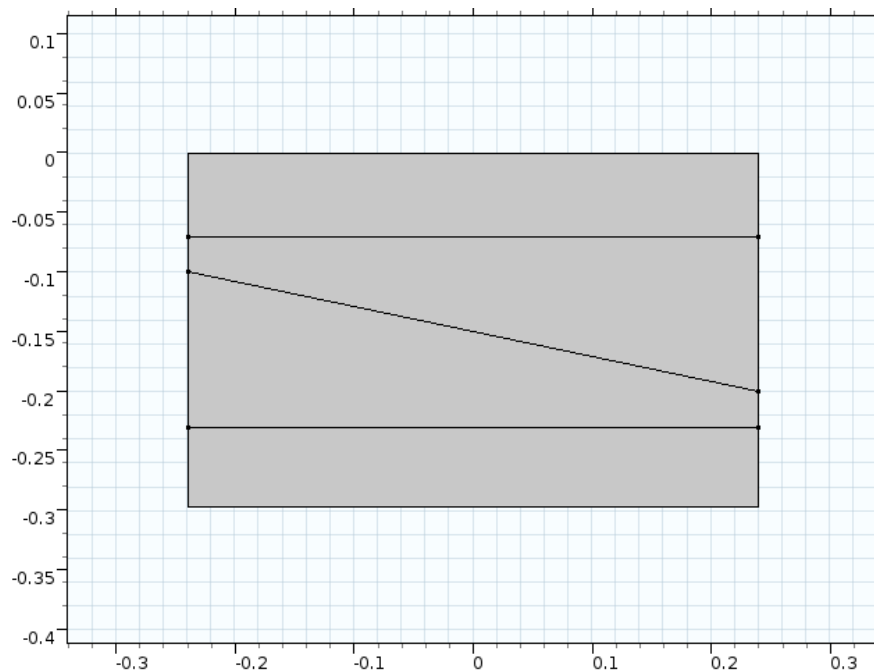

Figure 1 – The container with proper lines drawn in COMSOL.
5. First we have to add the global parameters. These are the width and height of the container (47.9 and 29.7 centimeters), density and viscosity for the two fluids ($\rho = 1000\text{kg/m}^3$ for the heavier fluid and $\rho = 800\text{kg/m}^3$ for the lighter fluid. The viscosity can be equal for the two fluids. $\mu = 10^{-3}\text{Pas}$ is reasonable) and two points which define the y-coordinates of the edges of the initial water surface. See figure 1.
9. Three polygons have to be added which will be our interface line and boundary lines for the fine mesh in the center of the container. See figure 1. The interface line will be drawn between two points at each end of the container. That is, at x equal $W/2$ and $-W/2$. The y-coordinates at each point should be defined in the parameters.
10. The other two polygons should be some distance above and under the interface line. These polygons will determine the space where we will have a finer mesh in our tank. See figure 1.